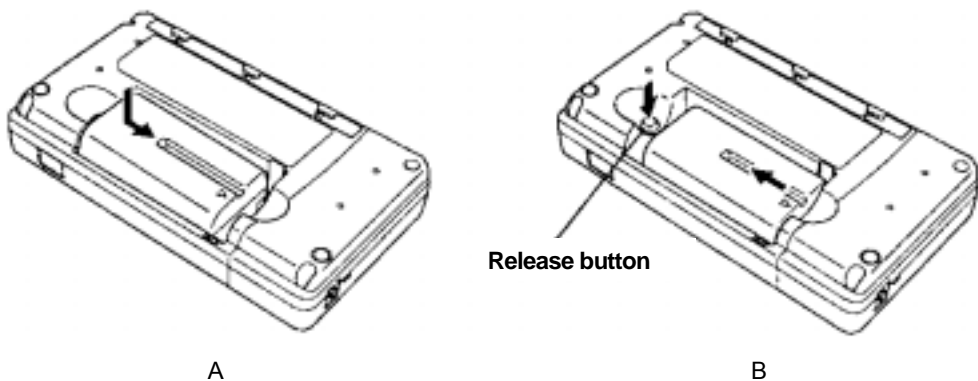

Figure 4-2 Connecting the Battery Pack
(1) Mounting the battery pack (See Figure 4-2 A.)
(2) Removing the battery pack (See Figure 4-2 B.)